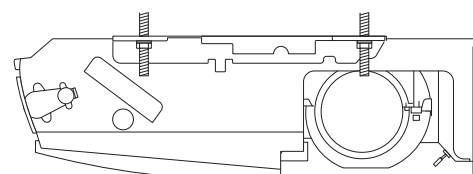

Fig. 3-141
- c) Tighten the 2 hexagonal nuts on each suspension bolt to suspend the indoor unit as shown in Fig. 3-141.